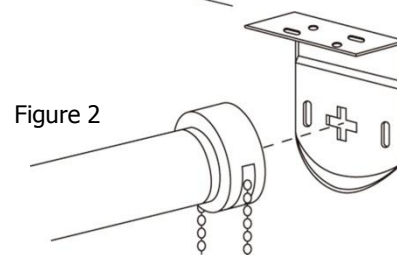

Figure 2
- ii) Carefully align the chain control mechanism with the control bracket (part B) (Figure 2) (this is the one with the cross). Push the blind into the control bracket, ensuring the chain is hanging directly down. Hook into place with a gentle downward motion